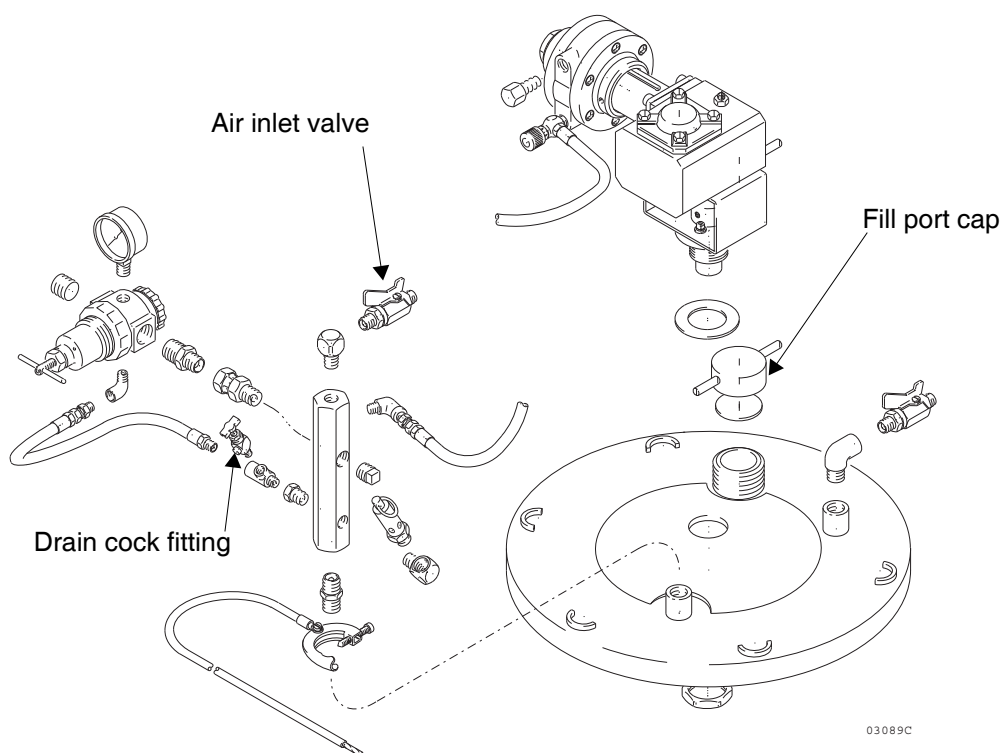

FIG. 27
1. Shut off the air supply to the tank by closing the air inlet valve. Refer to FIG. 27.